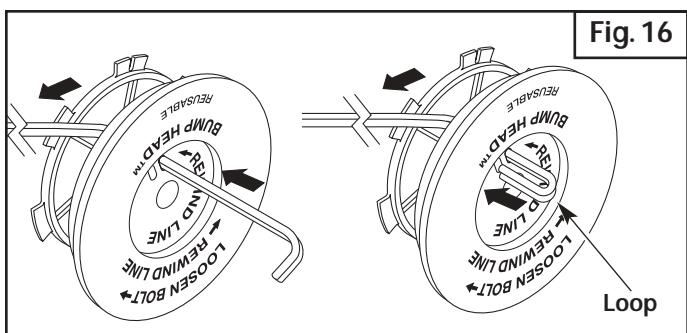

Fig. 16
8. Cut approximately 12 feet (3.65 m) of new trimming line. Insert one end of the line through one of the two holes in the inner reel (Fig. 16). Pull the line through the inner reel until only about 4 inches is left out.
9. Insert the end of the line into the open hole in the inner reel and pull the line tight to make the loop as small as possible (Fig. 16).